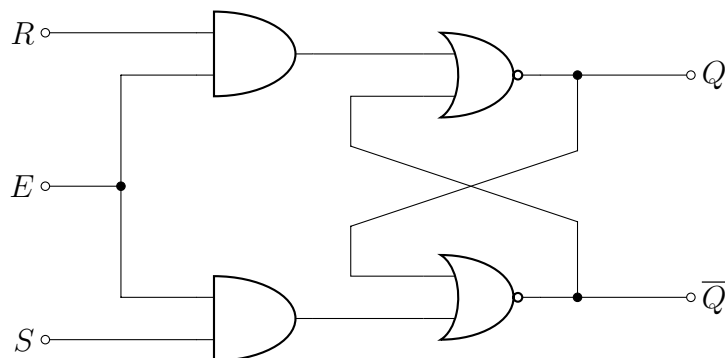

Figure 9: Gate-Level Diagram of a Clocked NAND-Gate SR Flip-flop
3. (Optional) Another very useful implementation of NAND gates is the Debounced Switch or SR Latch. A Debounce Switch prevents pushbutton switching events from triggering more than On/Off occurrence in a circuit. Debouncing inputs is critical in many logic circuit applications. A Debounce Switch or SR Latch can be completely constructed using discrete NAND gate logic when wired as shown in Figure 9. This exercise is left as an optional activity.